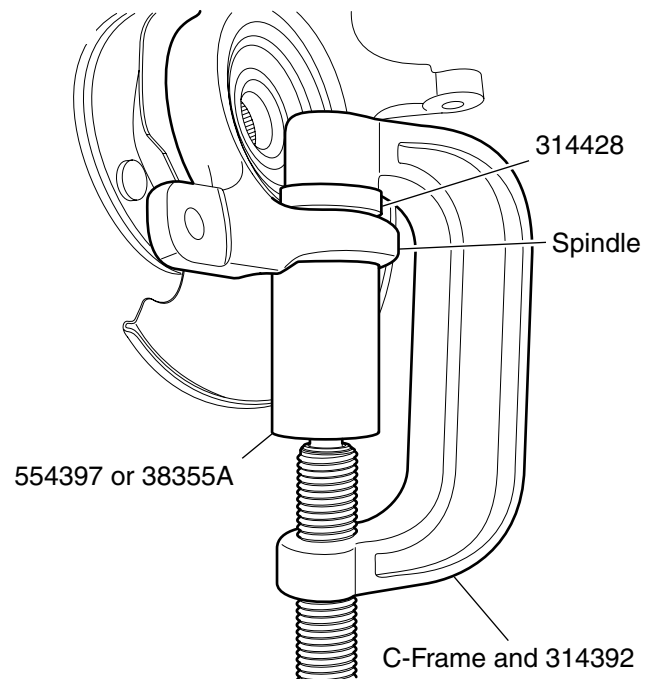

Figure 3. Ball Joint Installation
3. Position either 38355A or 554397 on the ball joint as shown in Figure 3.